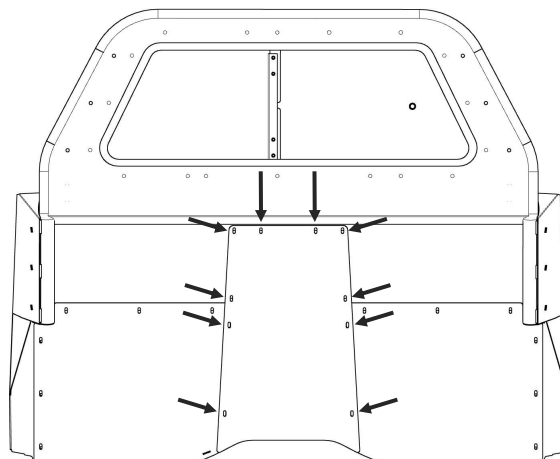

Figure 5
- B. Align the (10) slots on the Panel with the (10) corresponding slots on the partition and the Lower Extension Panels (Figure 5).
- C. Reuse the (6) fasteners that were removed from the partition in section VII step A. to loosely fasten the Recess Panel or Center Cover Panel to the partition. Use (4) carriage bolts [3X36] and (4) whiz nuts [3X16Z] in the remaining holes to fasten the Panel to the Lower Extension Panels.